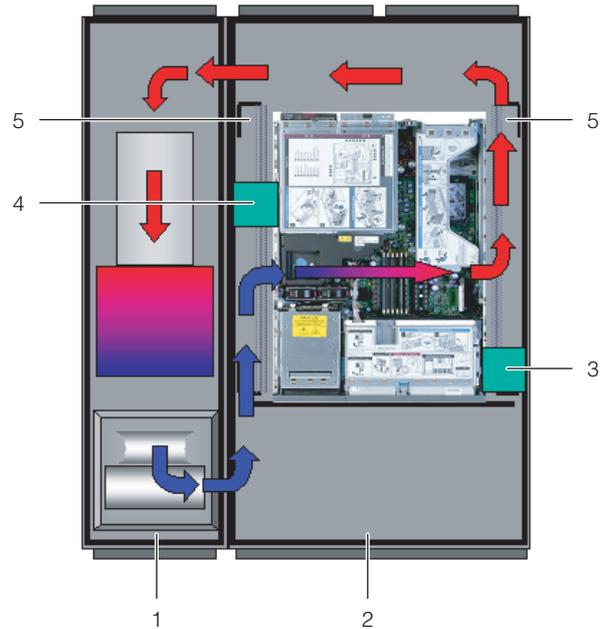

Fig. 22: Placement of foam strips for devices with sideways air throughput (top view) – LCP Rack
- If several devices which require sideways air throughput are included, cut out several pieces of the foam strip, as is appropriate, so that, ultimately, there is a cut-out in the foam to the left or right at the height of each such device in the server rack. Ensure that there are no gaps on the hot air side of the device (fig. 22, item 3).
- Attach the foam strips to the cold air side of the devices set back towards the rear (fig. 22, item 4), making sure that all fans built into the devices can draw air and that none of them are blocked.
The foam strips can be attached between the front and rear supports of the server rack along the entire depth of the devices with sideways air throughput (fig. 22, item 5).